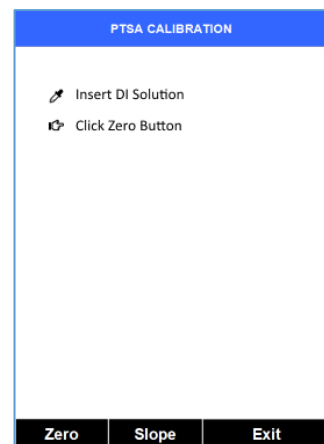

Figure 12
4. Press **Calib** (the < key). Press **OK** to select **PTSA** (alone) calibration, as shown in Figure 12
3. Press **Calib** (the > key) to launch the calibration selection screen (Figure 12). Press **Calib** again to select **Cond** (conductivity) calibration. Press **OK** to start the calibration procedure. The default conductivity calibration screen is the Combined Calibration (Figure 16). This will calibrate both Conductivity (at 1000 μ S) and PTSA (at 100 ppb) when using the Pyxis PTSA-1010C combined standard.
3. Press **Calib** (the > key) to launch the calibration selection screen (Figure 12). Press **Calib** again to select **Cond** (conductivity) calibration. Press **OK** to start the calibration procedure. A screen like Figure 16 appears. This is the default combined Calibration mode, which requires the Pyxis combined standard.